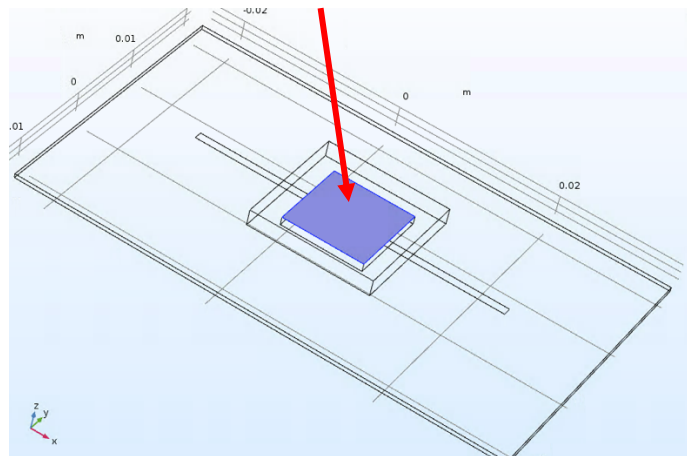

Figure-1: Thermal contact R_{jc}
- Add an additional thermal contact boundary condition on between the IC chip and the component i.e. R_{jc} , with the value of 4.2 degC/W as shown in figure-1